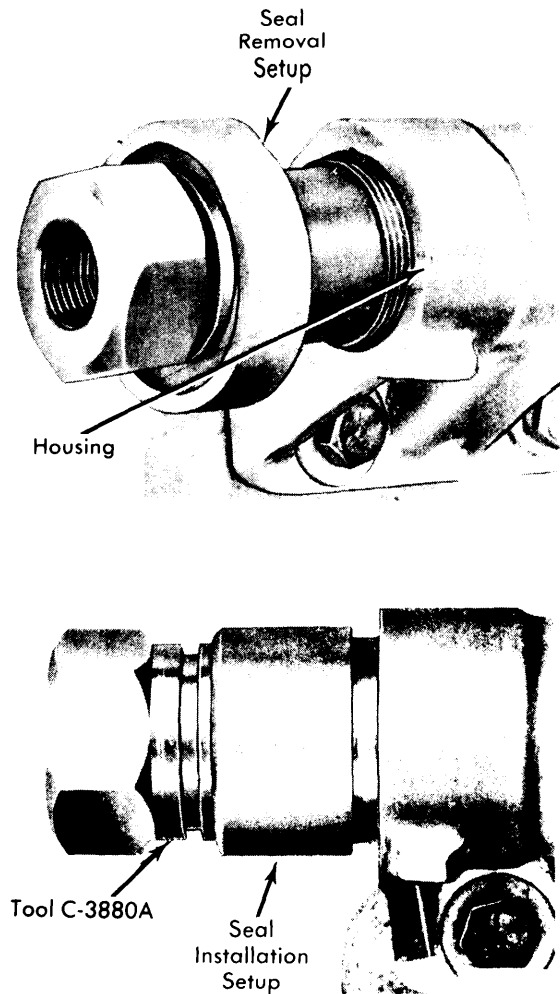

Fig. 4 Sector Shaft Oil Seal Removal & Installation (Chrysler Corp.)
2) Slide threaded adapter over end of sector shaft and install nut portion of tool (see Fig. 4). Apply pressure on adapter with nut while screwing adapter into seal until it grips seal firmly. Place two half rings and retainer over both portions of tool. Turn nut counterclockwise to withdraw seal from housing.